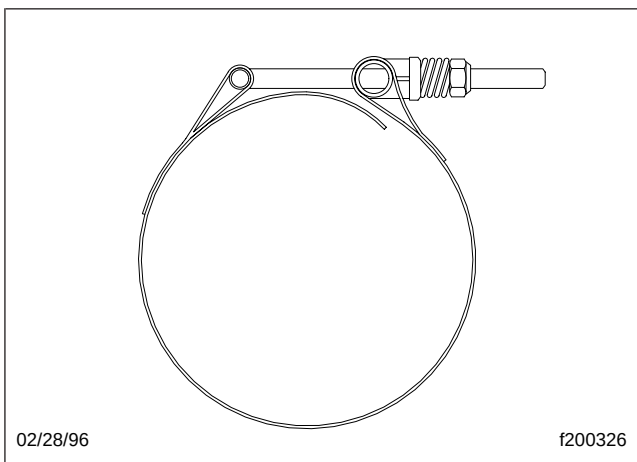
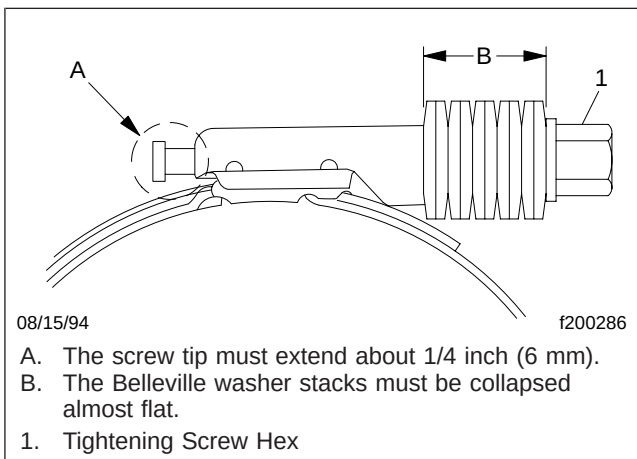

Fig. 1, T-Bolt Type Hose Clamp
Fig. 2, Breeze Constant-Torque Hose Clamp Installation
6. Connect the hoses. The hose clamps can be either T-bolt clamps (**Fig. 1**) or Breeze Constant-Torque clamps (**Fig. 2**).